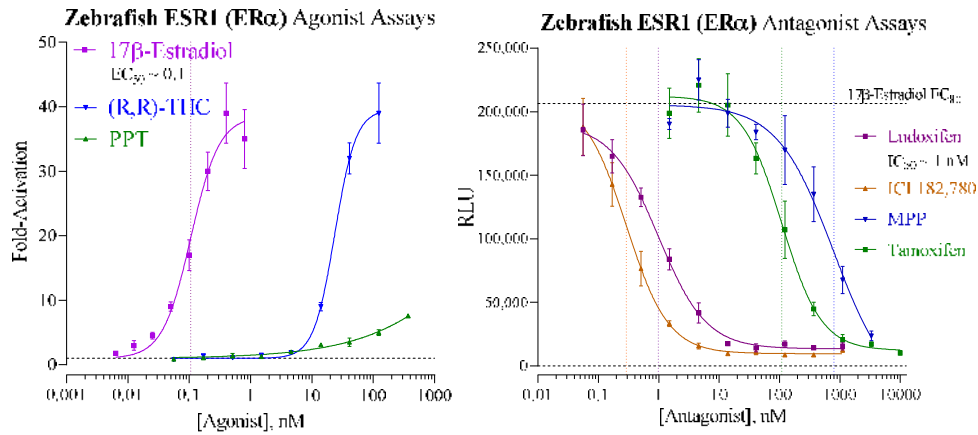

Figure 2. Agonist and Antagonist dose-response analyses of Zebrafish ER α .
- *Optional*: antagonist reference compound (refer to Fig 2)